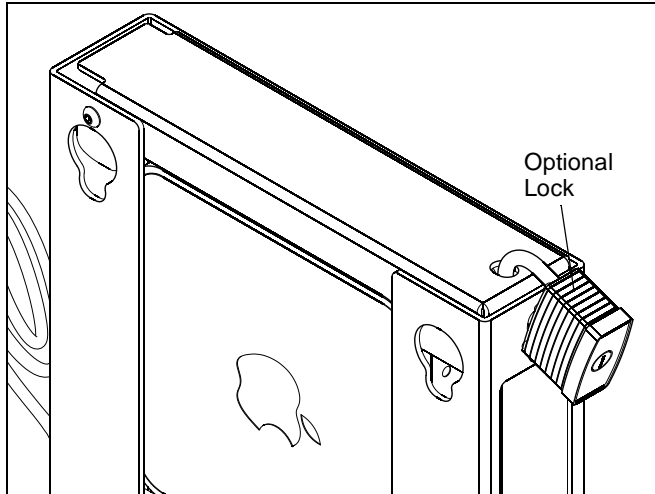

Figure 5
NOTE: A hole is provided in the CPU holder to accommodate insertion of a padlock or similar locking device. (See Figure 5)
1. While supporting each side of display, align four mounting buttons on display or interface bracket with four teardrop slots in CPU holder (See Figure 5).